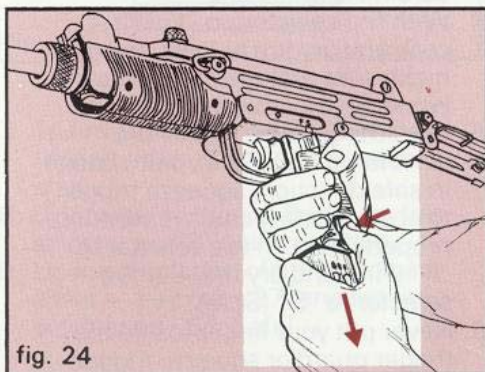

fig. 24
2. Depress magazine catch and remove magazine (fig. 24).